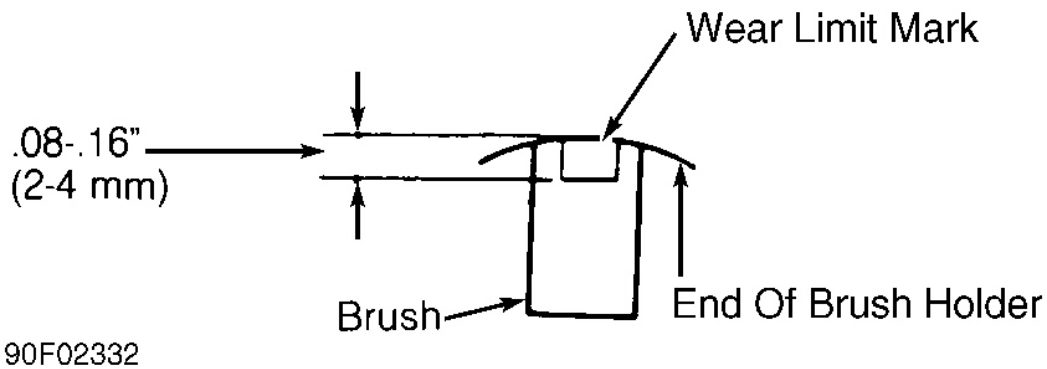

Fig. 9: Measuring Installed Depth of Brush
1. Install brush and spring into holder. Allow brush to extend out of holder until wear limit line extends .08-.16" (2-4 mm) beyond end of brush holder. See **Fig. 9**. Solder pigtail onto brush holder.
2. Insert spring and brush into brush holder. Using a spring scale, pull brush into holder until end of brush protrudes .08" (2.0 mm) from holder. See **Fig. 9**. Note reading on spring scale. Replace spring if tension is not 5.6-15.5 ozs. (160-440 g).